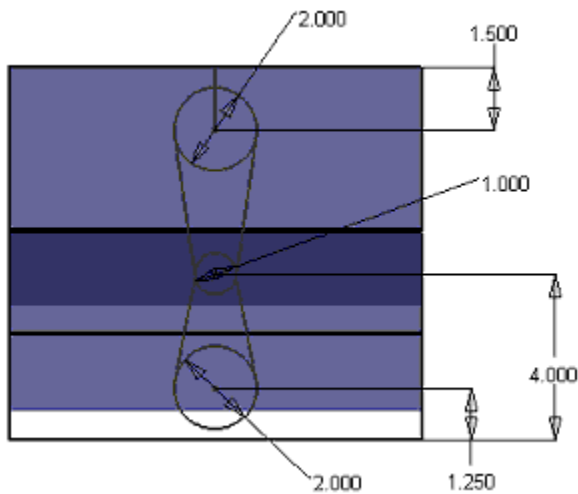

Figure 6: Sketch dimensioned to projected flat pattern edge.
1. Sketch a shape that has edges crossing the bends at an angle. Use the sketch shown in Figure 6 as an example. Note that you can dimension and constrain to the projected flat pattern edge.